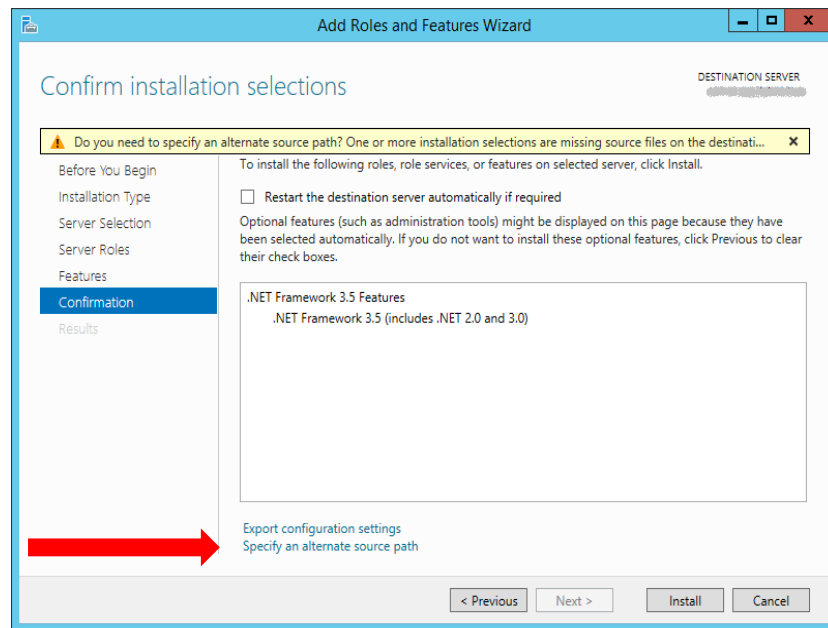
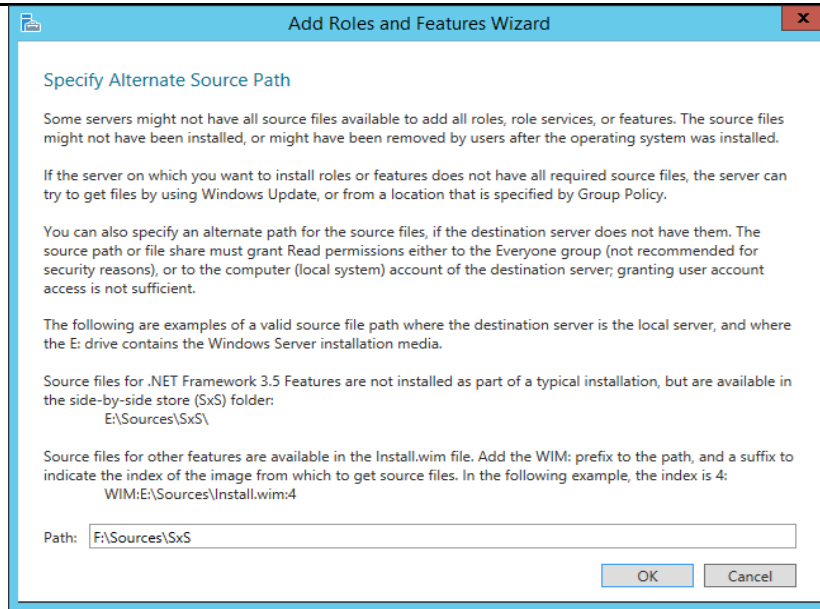

Figure 7 - Confirmation section of the Add Roles and Features wizard
Figure 8 - Specify an alternative source path for NetFx3 source files
7. Click **Next**. The wizard displays the Confirmation section (shown in Figure 7).
8. The top of the window shown in Figure 7 displays a warning message, instructing you that one or more installation selections are missing source files on the destination server and prompting you to identify an alternative source path. Click the **Specify an alternate source path** link (at the bottom of the screen). The wizard displays Figure 8.
9. The required source files for the .Net Framework 3.5 are located either on the Windows Server 2012 (R2) DVD or on the OpenEnterprise Version3.1 installation DVD. In this example, the DVD device is identified as drive F, so the alternative path is **F:\Sources\SxS**. Click **OK**. The wizard redisplay *Figure 7*.